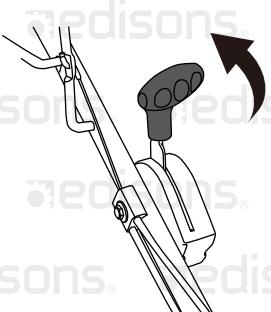

Fig. 16
1. Release the drive bar (3) to stop the self-propelled function.
2. Move the throttle lever upward to idle speed position (Fig. 16). Let the engine run at idle speed for 10-15 seconds.